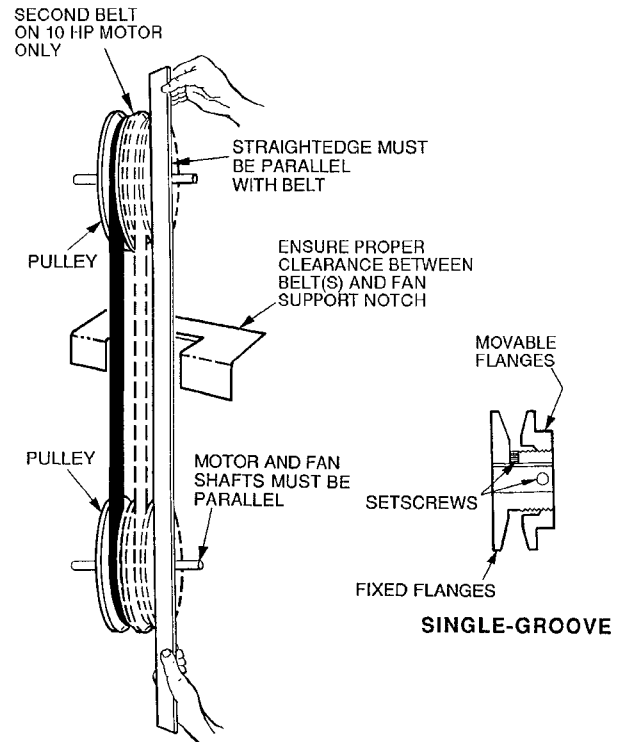

Fig. 26 — Evaporator-Fan Alignment and Adjustment
3. Loosen movable-pulley flange setscrew (see Fig. 26).